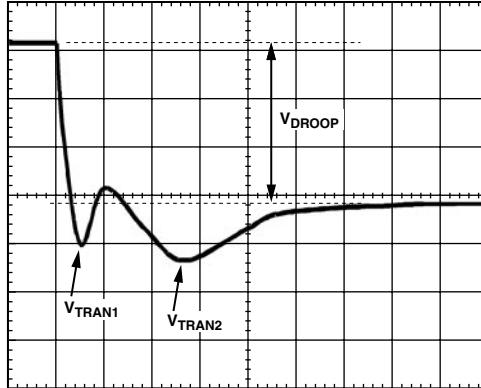
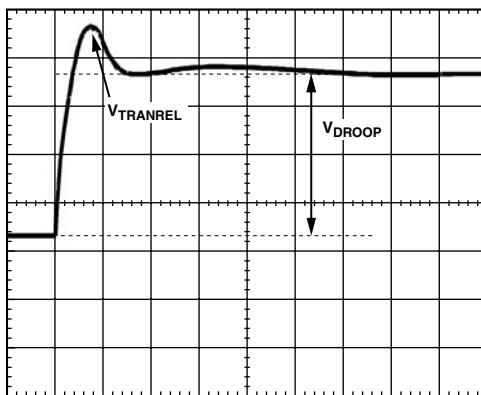

Figure 9. Transient Setting Waveform
Figure 10. Transient Setting Waveform
form that may have two overshoots and one minor undershoot (see Figure 9). Here,  $V_{DROOP}$  is the final desired value.
- For load release (see Figure 10), if  $V_{TRANREL}$  is larger than  $V_{TRAN1}$  (see Figure 9), you do not have enough output capacitance. You will either need more capacitance or to make the inductor values smaller (if you change inductors, you need to start the design over using the spreadsheet and this tuning procedure).